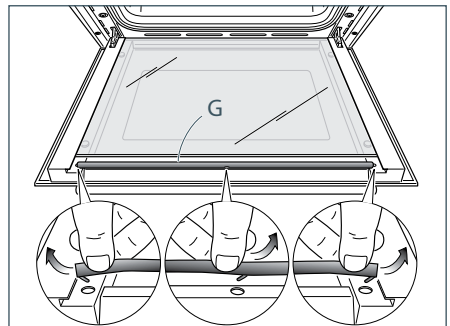

Fig.58d
- Remove the seal "G" by unhooking the three fixing hooks (Fig. 58d).